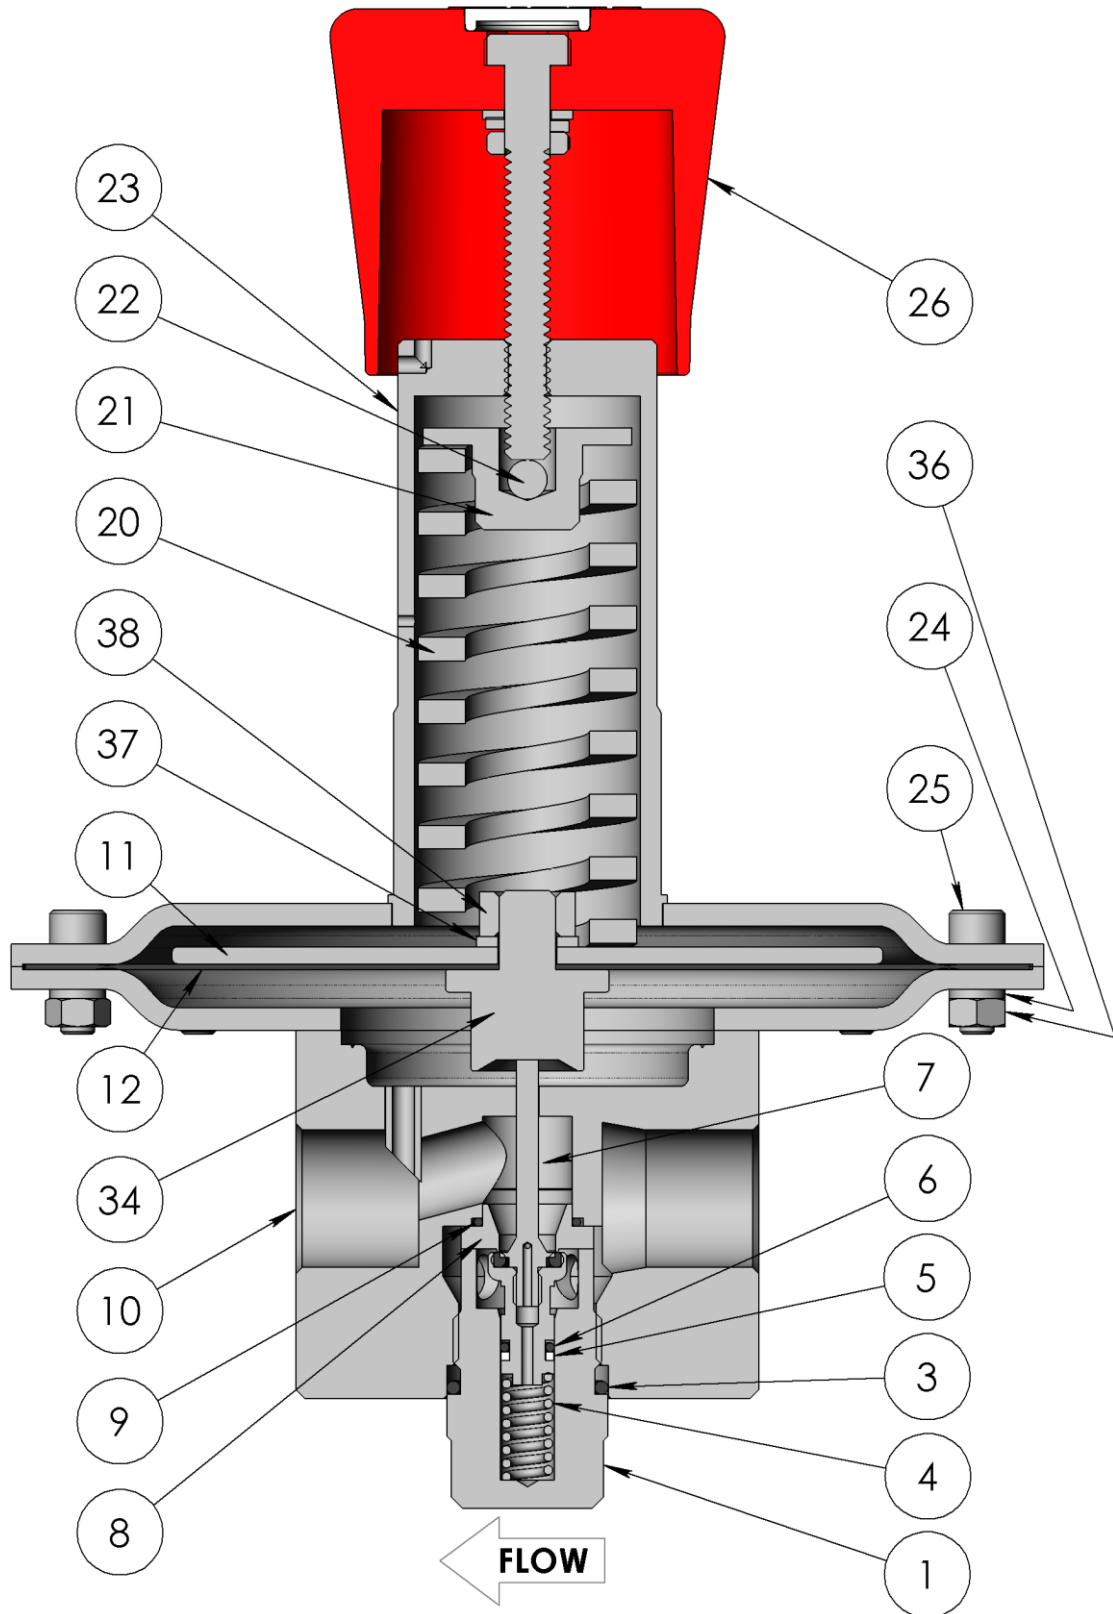

Fig 9
2. Place the diaphragm (12) onto the diaphragm plate (11) then insert the diaphragm screw (34) through the plate per Fig 9. Lightly lubricate the diaphragm screw threads (34).
3. Secure the assembly with the diaphragm nut (38) and washer (37). Torque to 7 lbf·ft (10 N·m).
4. Place the diaphragm assembly in the body (10) on top of the poppet (7). Align the holes in the diaphragm (12) with the holes in the body (10).
6. Lightly lubricate the cap screws (25). Fit the spring housing (23) over the spring (20) and secure with the cap screws (25), washers (24) and cap nuts (36). Torque to 11 lbf·ft (15 N·m).